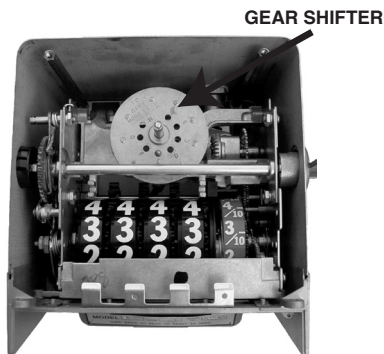

FIGURE 5
2. Lift and turn change gear shifter (see Figure 5) in the direction indicated on the top of the shifter.